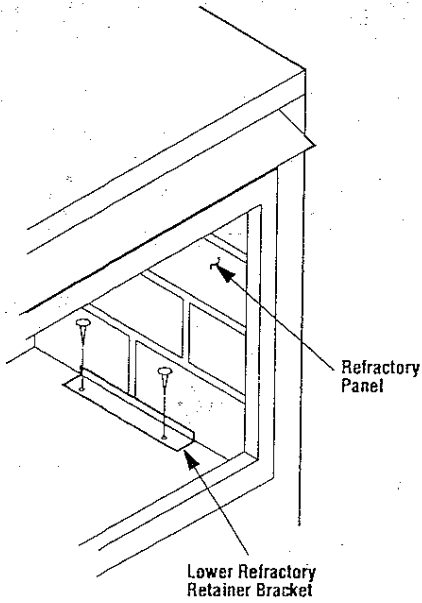

Figure 1
**Step 1.** Position the refractory panel in place at the open end of the appliance from within the firebox. The refractory panel should be installed so that the three notches are towards the bottom of the unit. Secure the refractory with the lower refractory containment brackets as shown in Figure 1, securing it in place with two (2) #8-15 x 1/2 Hex Washer Head R.P.S. screws. Align the bracket on the bottom of the firebox centered on the refractory panel.